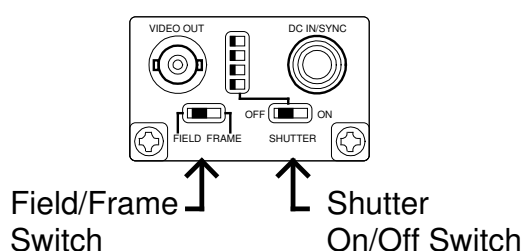

Fig. 2: Panel of the CCD camera inside the Readout Unit
- Remove the 6 screws that hold the cover of the Readout Unit and look at the panel at the rear side of the CCD camera (see fig.2).